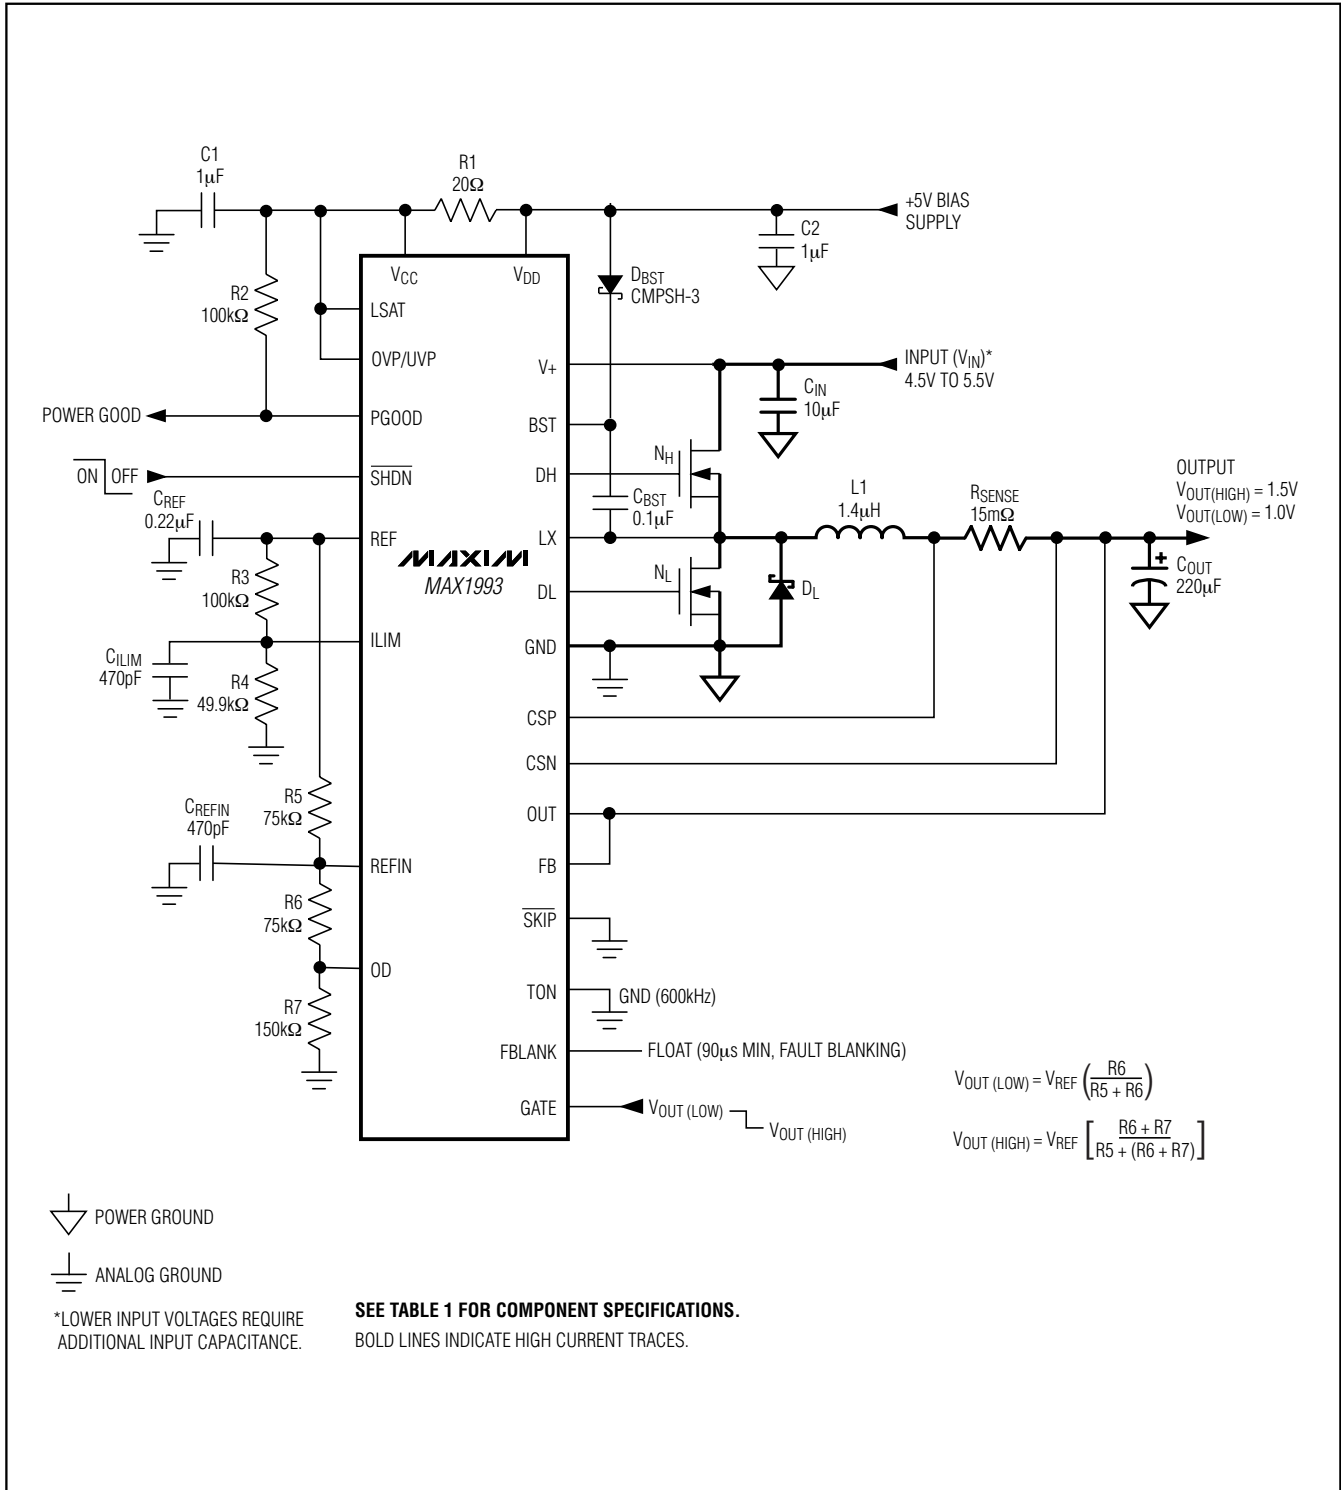

Figure 9. MAX1993 Standard Application Circuit
The MAX1993 regulates FB to the voltage set at REFIN. By changing the voltage at REFIN, the MAX1993 can be used in applications that require dynamic output voltage changes between two set points. Figure 9 shows a dynamically adjustable resistive voltage-divider network at REFIN. Using the GATE signal and open-drain output (OD), a resistor can be switched in and out of the REFIN resistor-divider, changing the voltage at REFIN. A logic high on GATE turns on the internal N-channel MOSFET, forcing OD to a low-impedance state. A logic low on GATE disables the N-channel MOSFET, so OD is high impedance. The two output voltages ( $FB = OUT$ ) are determined by the following equations:
Adding a capacitor across REFIN and GND filters noise and controls the rate-of-change of the REFIN voltage during dynamic transitions. With the additional capacitance, the REFIN voltage slews between the two set points with a time constant determined by the equivalent parallel resistance seen by the slew capacitor ( $C_{REFIN}$ ). Referring to Figure 9, the time constant for a positive REFIN voltage transition is: